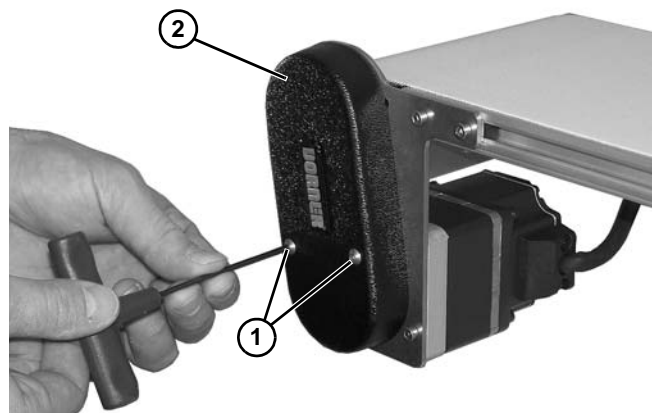

Figure 20
16. Install cover (**Figure 20, item 2**) with two screws (**Figure 20, item 1**).